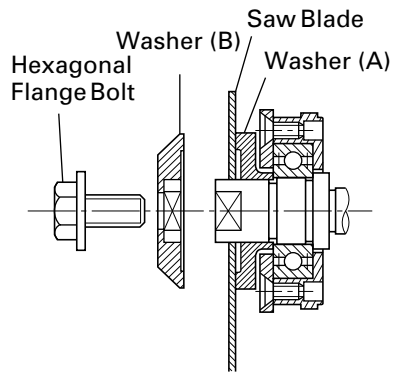

Fig. 19
- (1) Thoroughly remove any sawdust which has accumulated on the spindle, bolt and washers.
- (2) For mounting saw blade, the concave sides of both washers (A) and (B) must be fitted to the saw blade sides. Mount the saw blade on the spindle, and finally affix washer (B) (See Fig. 19)
- (3) To assure proper rotation direction of the saw blade, the arrow direction on the saw blade must coincide with the arrow direction on the blade cover.